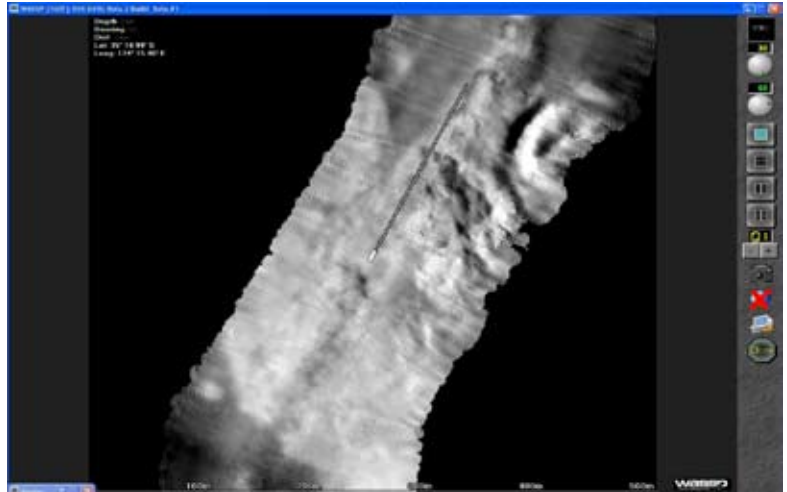

Figure 39 – Correctly adjusted sidescan image
- 6) Now adjust the Sidescan Gain slider control to give the desired picture. See figure 39 (next page) for an illustration of a correctly adjusted sidescan backscatter image.